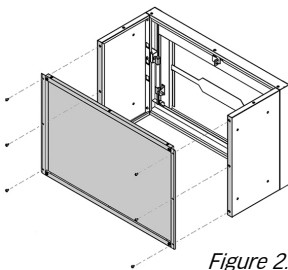

Figure 2.
2. Attach the back panel (#5) to the side panels with M4 x 10 screws (#1) (Fig. 2)